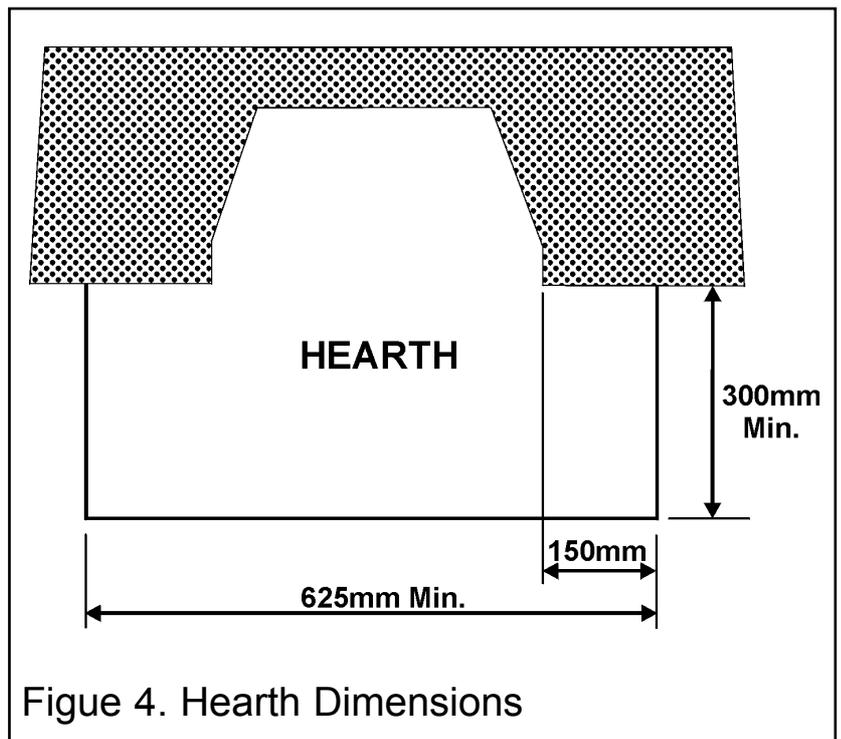

Figure 4. Hearth Dimensions
- **It is recommended that a hearth should be installed as in figure 4.**
3.17 The appliance must be mounted on a non-combustible hearth in accordance with Figure 4. The hearth material must have a minimum thickness of 12.5mm (1/2"). The periphery of the hearth (or fender) should be at least 50mm above floor level to